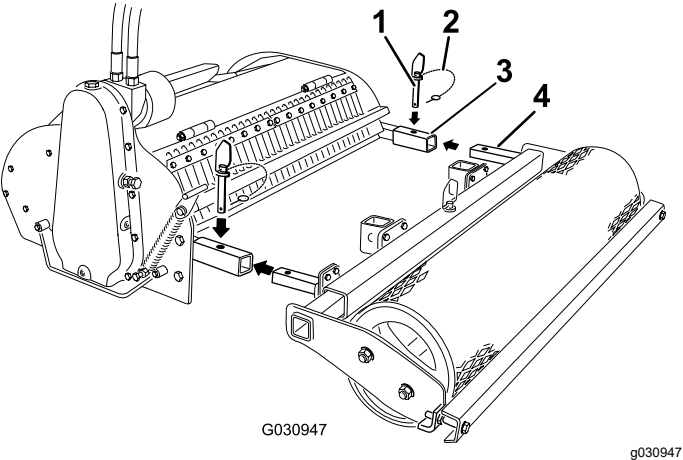

Figure 3
4. Remove the snap-ring clevis pins from the drift pins (Figure 3).
5. Remove the drift pins from the arms of the cultivator (Figure 3).
6. Slide the arms on the roller into the arms on the cultivator and connect them with the drift pins (Figure 3).